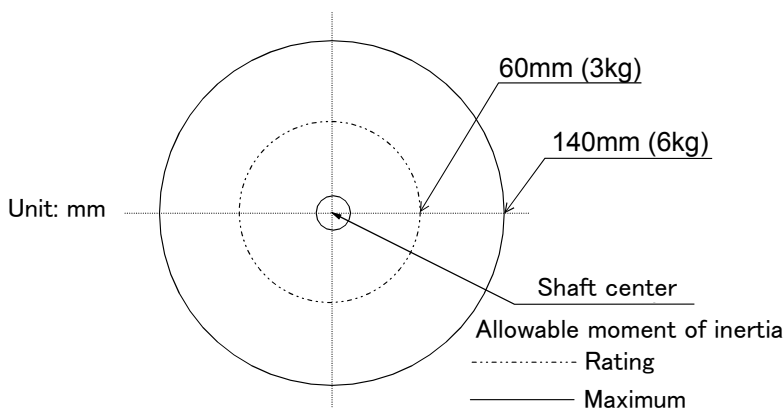
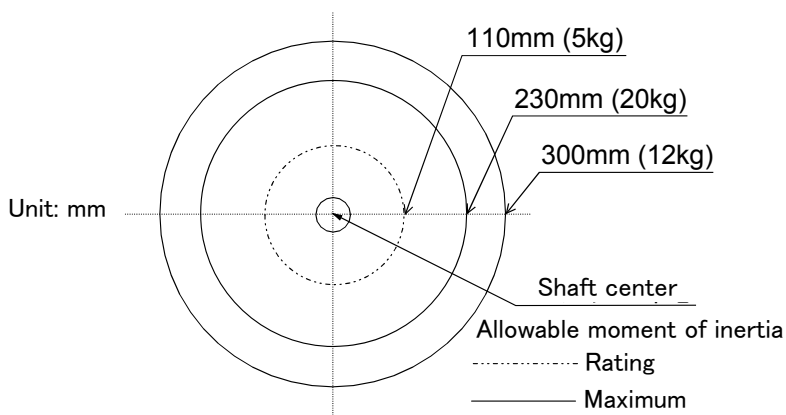

Fig.2-1 : Position of center of gravity for loads (for loads with comparatively small volume): RH-6FH series
Fig.2-3 : Position of center of gravity for loads (for loads with comparatively small volume): RH-20FH series
- (1) The tooling should have the value less or equal than the smaller of the tolerable inertia and the tolerable moment found in Page 10, "2.1.1 Basic specifications".
- (2) Fig. 2-1 shows the distribution dimensions for the center of gravity in the case where the volume of the load is relatively small. Use this figure as a reference when designing the tooling. Please use the robot in the allowable moment of inertia of maximum moment of inertia shown in Fig. 2-1 to Fig. 2-3, when loading mass is maximum (RH-6FH: 6kg, RH-12FH: 12kg, RH-20FH: 20kg).
- (3) Even if the load is force, not the mass, design the tooling so that moment does not exceed the allowable moment. Refer to Page 10, "2.1 Standard specifications" for details of allowable moment value.